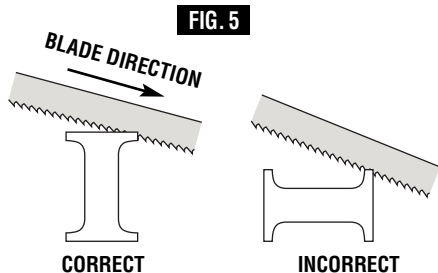

FIG. 5
2. Start cutting on a surface where the greatest number of teeth will be in contact with the workpiece at one time (Fig. 5).